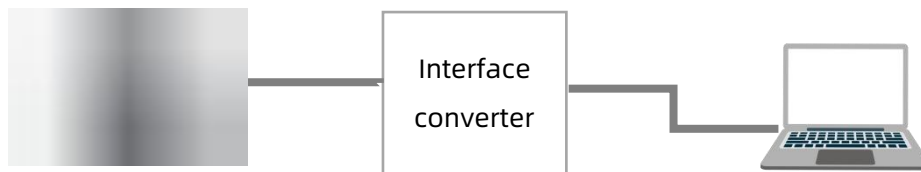

Figure 13 TF03 connecting to PC
- Connect TF03 to the PC or laptop with a **paired USB converter** cable as shown in *Figure 13 TF03 connecting to PC*. The UART version TF03 needs a UART-USB converter, and the CAN version TF03 needs a CAN-USB converter.